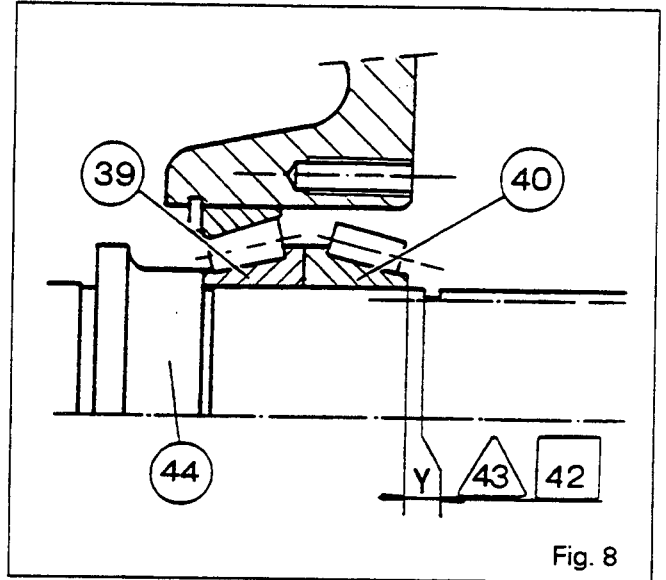

Fig. 8
29. The purpose of this operation is to prepare for setting **J3** (Fig. 8). Hold the cones (39) and (40) fully home against the shoulder of shaft (44) by pressing on them by hand.